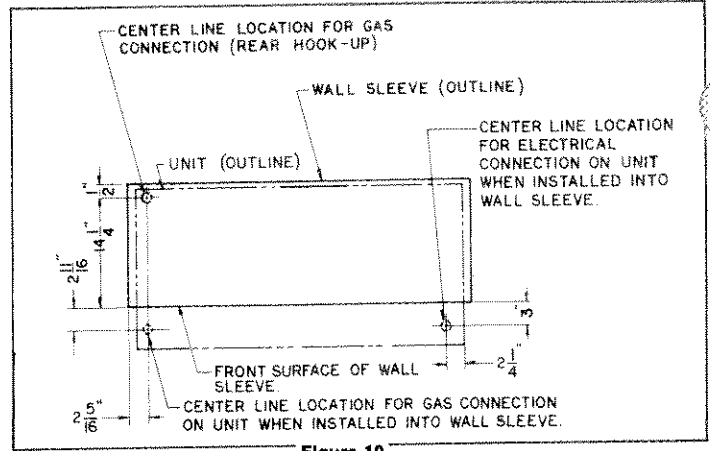

Figure 10
8. Connect gas and electrical supply. NOTE: If front gas hook-up is to be used, refer to Figure 10 for centerline location of gas connection when unit is installed into wall sleeve.